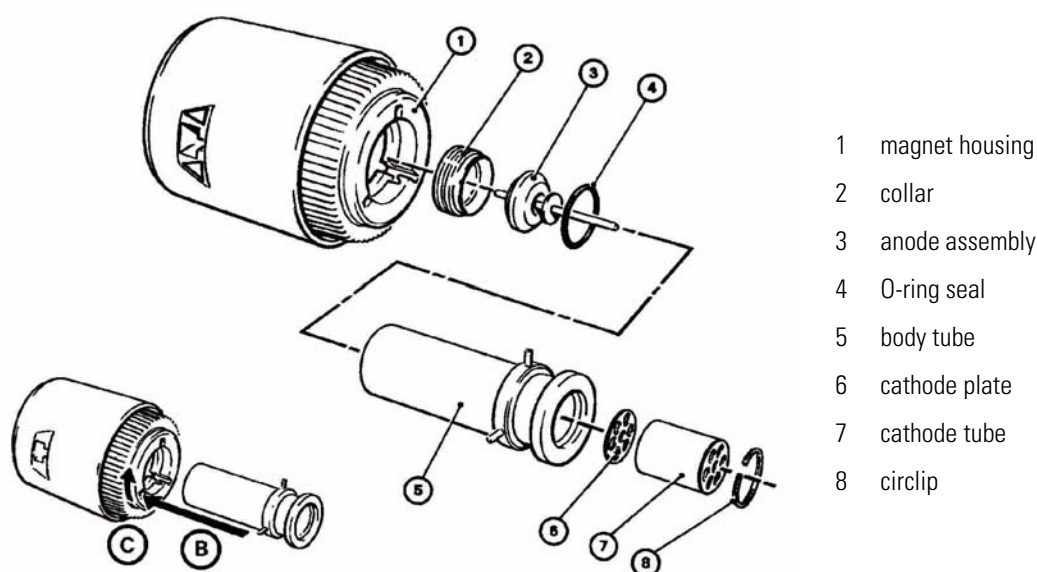

Figure 7-28. Parts of Penning Gauge - Schematic
If the provisional procedure described above at “Starting Problems of Penning Gauge” on page 7-34 does not put the Penning gauge into operation again, it must be cleaned. A contaminated Penning gauge may read out wrong pressures. Its design allows you to easily clean cathode tube, cathode plate and anode assembly that predominantly may get dirty. See 7, 6, 3 in Figure 7-28 or 3, 4, 7 in Figure 7-29. From time to time, proceed as follows:
2. Insert the needle-nosed pliers into both eyelets of the circlip (**5** in Figure 7-28, see arrows) and pull it out.
3. Remove dirt on the metal parts (predominantly **7**, **6**, **3** in Figure 7-28 or **3**, **4**, **7** in Figure 7-29) using fine sandpaper or Al_2O_3 .